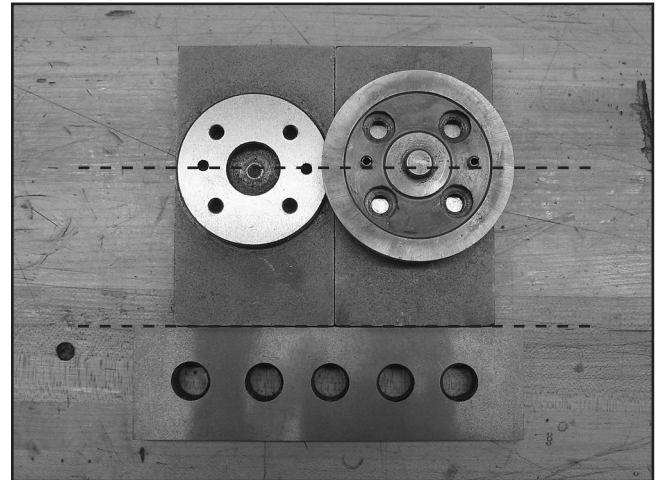

Figure 9. Aligning guide pin holes.
8. Place the adapter plate in the base, align the new and old base with a straightedge or 1-2-3 block, then rotate the adapter plate so the guide holes in the base are aligned with the guide holes on the old adapter plate, as shown in **Figure 9**.